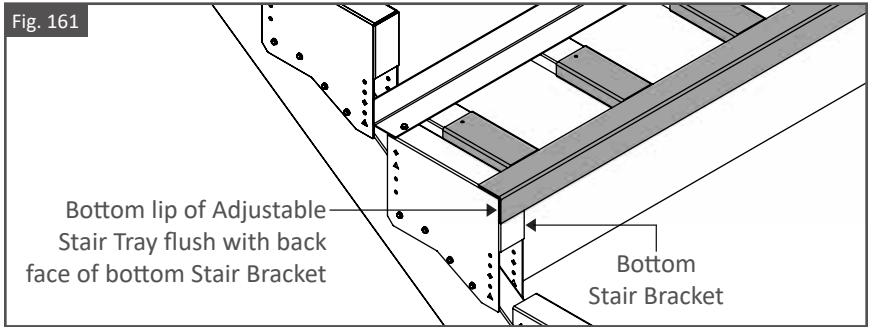

Fig. 162
6. Using Evolution Self-Drilling Screws, fasten the bottom lip of the stair tray onto the top face of the bottom Stair Brackets. As shown in Fig. 162.